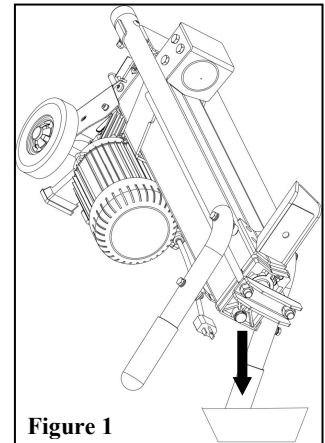

Figure 1
5. Turn the log splitter on the support leg side over using a one gallon or larger capacity container to drain the hydraulic oil as shown in figure 1.